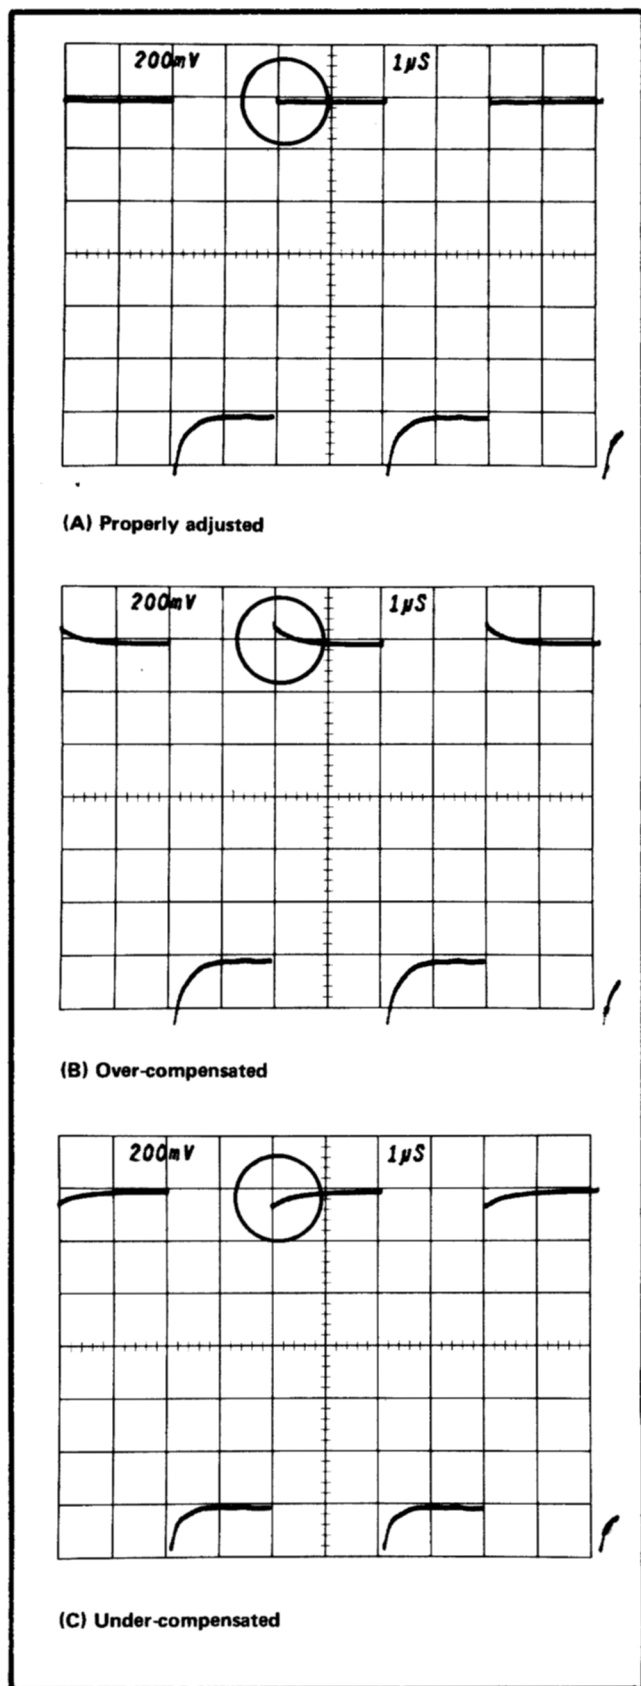

Fig. 5-15. Probe compensation waveforms, step 13.
g. CHECK—Divide-by-20 input compensation. The top left corners of the square waves should be square, duplicating the Calibration Fixture's 250 kHz Step Response display. Overshoot, rounding and tilt at the top-left corner of the square waves should be within 0.2 divisions. See Fig. 5-15. Ignore the aberrations at the trailing edge of the top of the pulse.